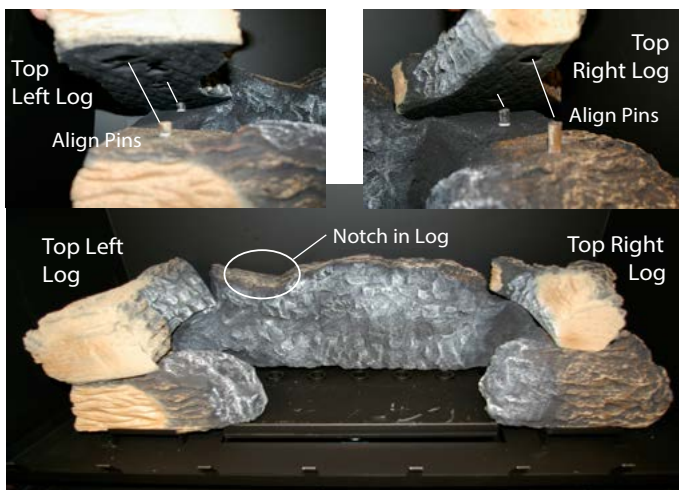

Figure 10c. Top Left / Right Log.
Step 4. Place the Top Right log as shown in **figure 10c**. using the (4) four alignment pins protruding from the top of the Right and Left Bottom Logs, as shown in **figure 10c**. With these pins align the Top Right and Left logs using the predetermined alignment holes cast into the underside of the logs, as shown above, **figure 10d**.
Step 5. Place the Centre Front log, **Figure 10d** below, as shown using the notch cast in the Bottom Rear log as shown in **figure 10c** above.